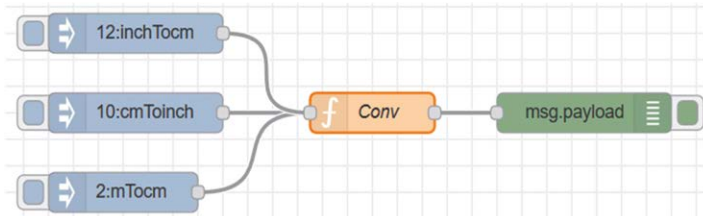

Figure 4.31 Join the 5 nodes together
- Create a **debug** node and then connect all 5 nodes together as shown in Figure 4.31. Then, click **Deploy**.